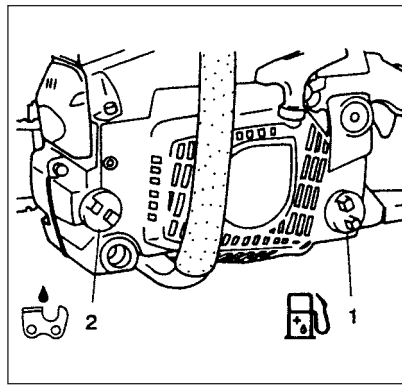

Fig. 2-1B
#### ⚠ WARNING! (Fig.2-1B)
#### Chain oil (Fig. 2-1B)
When pouring fuel (1) or chain oil (2) into the tank, place the unit with cap side up. (Fig. 2-1B)